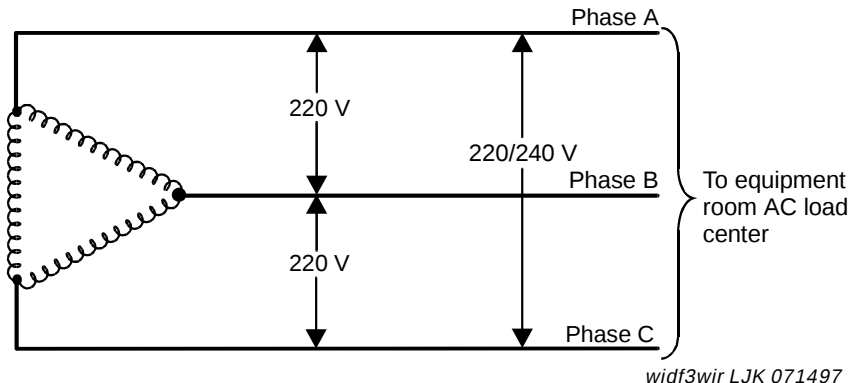

Figure 21. International Delta, 220 or 240 VAC, 50-Hz Source
- International Delta, 3-wire, 220 or 240 VAC. See Figure 21 on page 56.